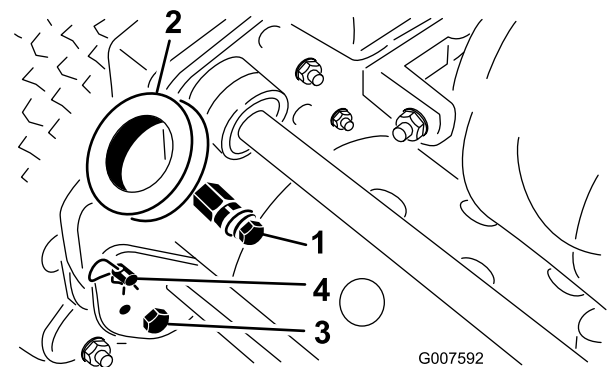

Figure 2
1. Remove the bolt, washer, and lockwasher from the mounting pin on each side of the mower (Figure 2).
2. Remove the bolts and locknuts securing the bottom of the handle arms to each side of the mower (Figure 2).
3. Remove the hairpin cotters and ring pins securing the handle arms to the rear of the frame (Figure 2).
4. Insert the handle ends thru the holes in the handle arms and align the holes with the mounting pins (Figure 2).
1. Remove the hairpin cotters from the ring pins on each side of the mower (Figure 2).
2. While supporting the handle, remove the ring pins from each side and raise or lower the handle to the desired operating position (Figure 2).